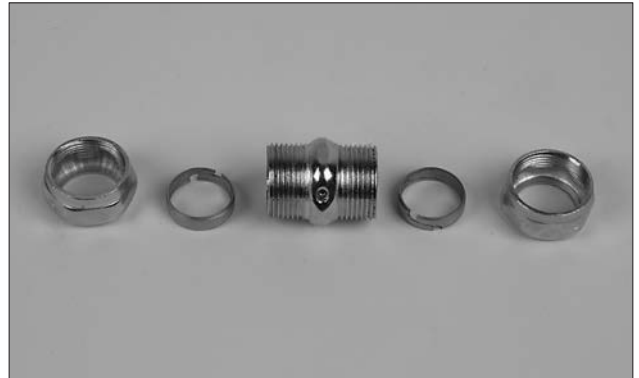

FIGURE 5-97
1. Remove rings from both ends of compression union. See Figure 5-97.